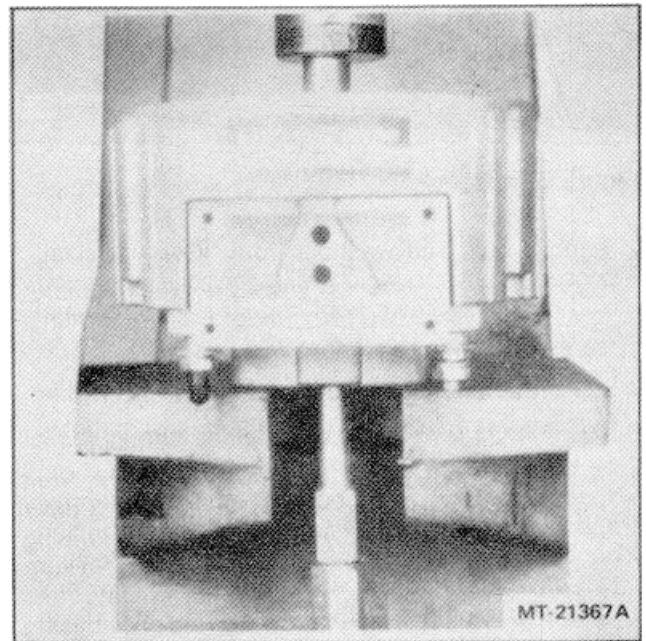

Figure 12 - Removing Slip Ring End Bearing.
14. Slip ring end bearing replacement should seldom be required. If it should become necessary; however, press the bearing from the inside of the housing outward (See Figure 12).